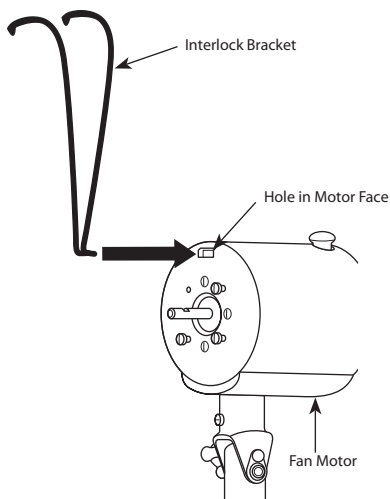

FIGURE 6
16. Install the Interlock Bracket as shown in Figure 6. NOTE: DO NOT remove the rubber barrier from the hole in the Motor Face. Insert the bottom of the Interlock Bracket into the opening protected by the rubber barrier.